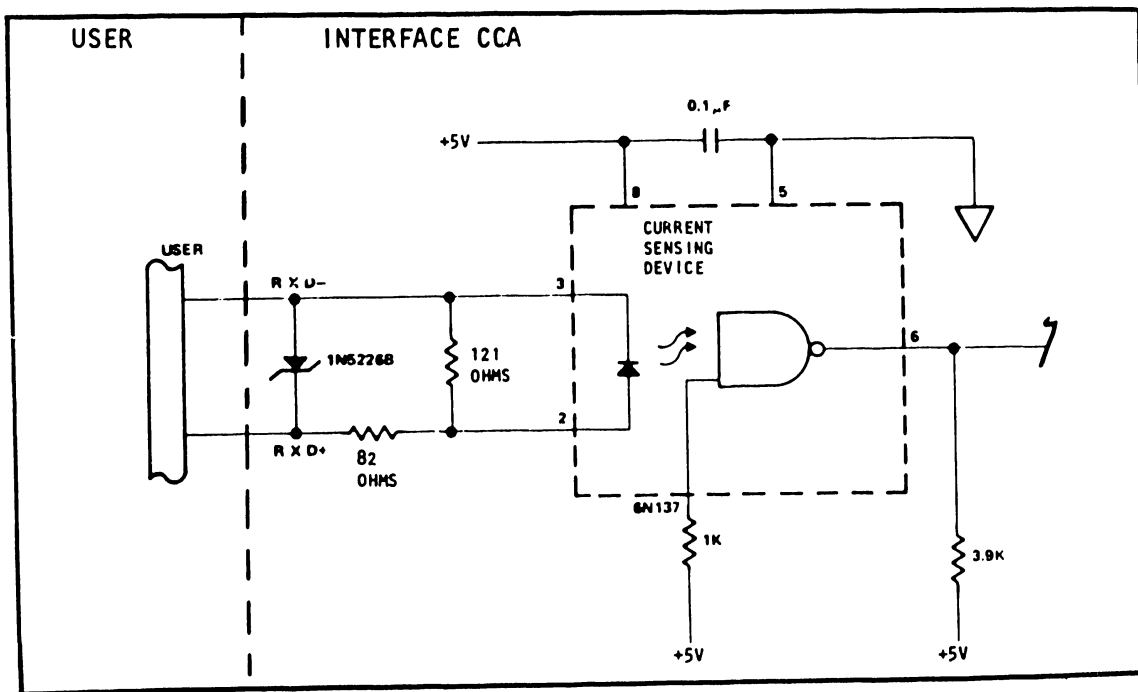

Figure 2-26. 20 mA Current Loop Receiver Circuit
(2) 20 mA Current Loop - Signals are transmitted by means of two (2) current loops: receive and transmit. The receive loop is made up of a two (2) wire current source (RXD+ and RXD-) supplied by the user to the CCA. Within the Serial Interface CCA, the two (2) wires of the receiver current source are terminated in a current sensing device (SH C4). Figure 2-26 illustrates the 20 mA Current Loop Receiver Circuit.